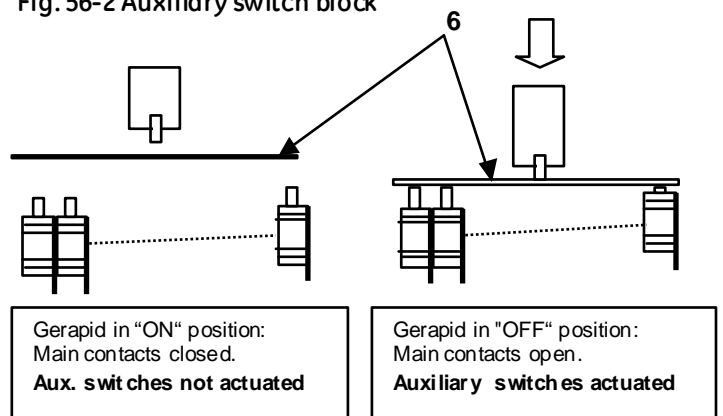

Fig. 56-3 Actuating plate for auxiliary switch block
- Adjustment of the switches may be required if they fail to provide correct position indication. This condition can be caused by misalignment of the actuating plate (6) [Fig. 56-3], represented by dashed line.